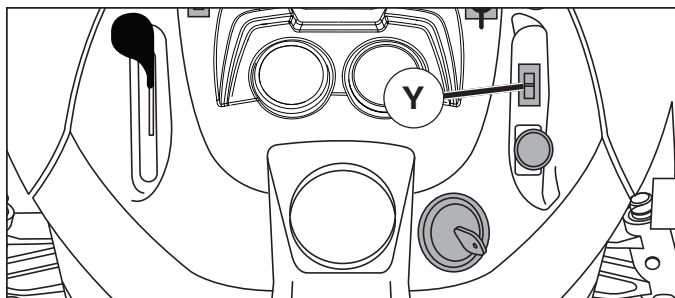

Fig. 8
TO USE DIFFERENTIAL LOCK CONTROL (Y) (See Fig. 8)